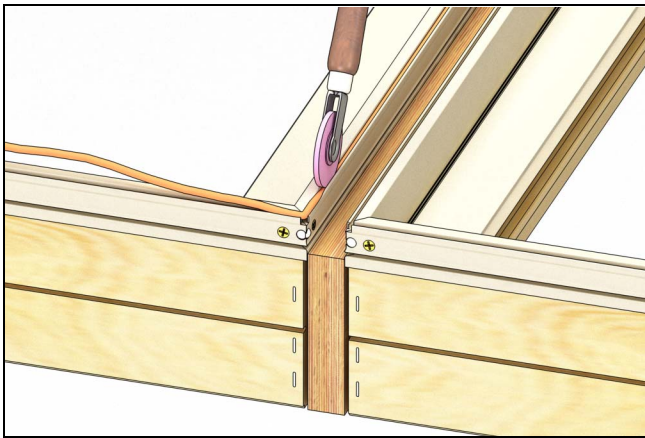

Figure 32
2. Apply frame kerf weatherstrip in the accessory kerf along the mullion and all open kerfs that run perpendicular to the mull. Roll the weatherstrip into the kerf with a screen spline roller or similar tool. See Figure 32.